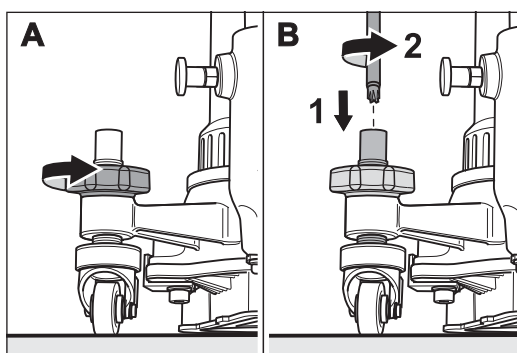

Fig. 56 Undo the locknut on the guide roller.
- 2 Loosen the locknut of the guide roller to be adjusted (fig. 56, **A**).
If the locknut is screwed on too tightly, you can turn the vertical guide roller axis counterclockwise with the universal spanner to loosen the locknut (fig. 56, **B**).
- 2 Loosen the locknut of the guide roller to be adjusted (fig. 56, A).
If the locknut is screwed on too tightly, you can turn the vertical guide roller axis counterclockwise with the universal spanner to loosen the locknut (fig. 56, B).
- Remove the locknut of the guide roller (fig. 56).